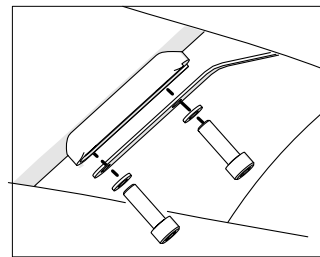

Figure 5
2. Using a 5 mm hex key, remove the two bolts holding the brake pad against the frame (Figure 5).